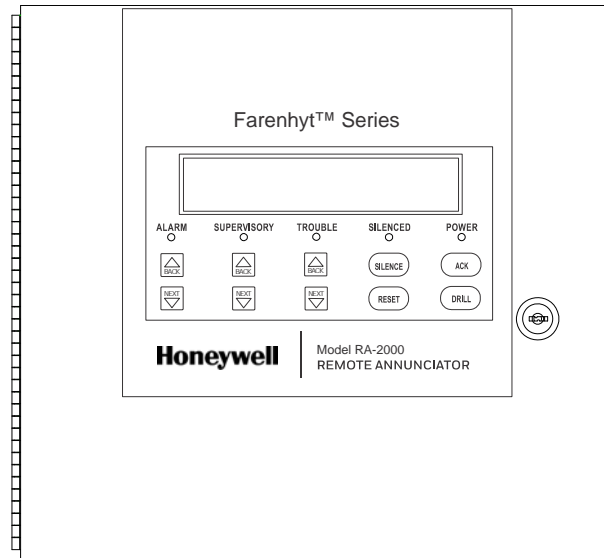

**Figure 4.22 RA-1000 Connection to the Panel**
3. Connect the RA-1000 to the panel (see Figure 4.22).
4. After the annunciator wiring to the panel has been completed (refer to Figure 4.22), replace the electronic assembly in the back box. Place the bezel over the back box and tighten the set screws on the bezel.